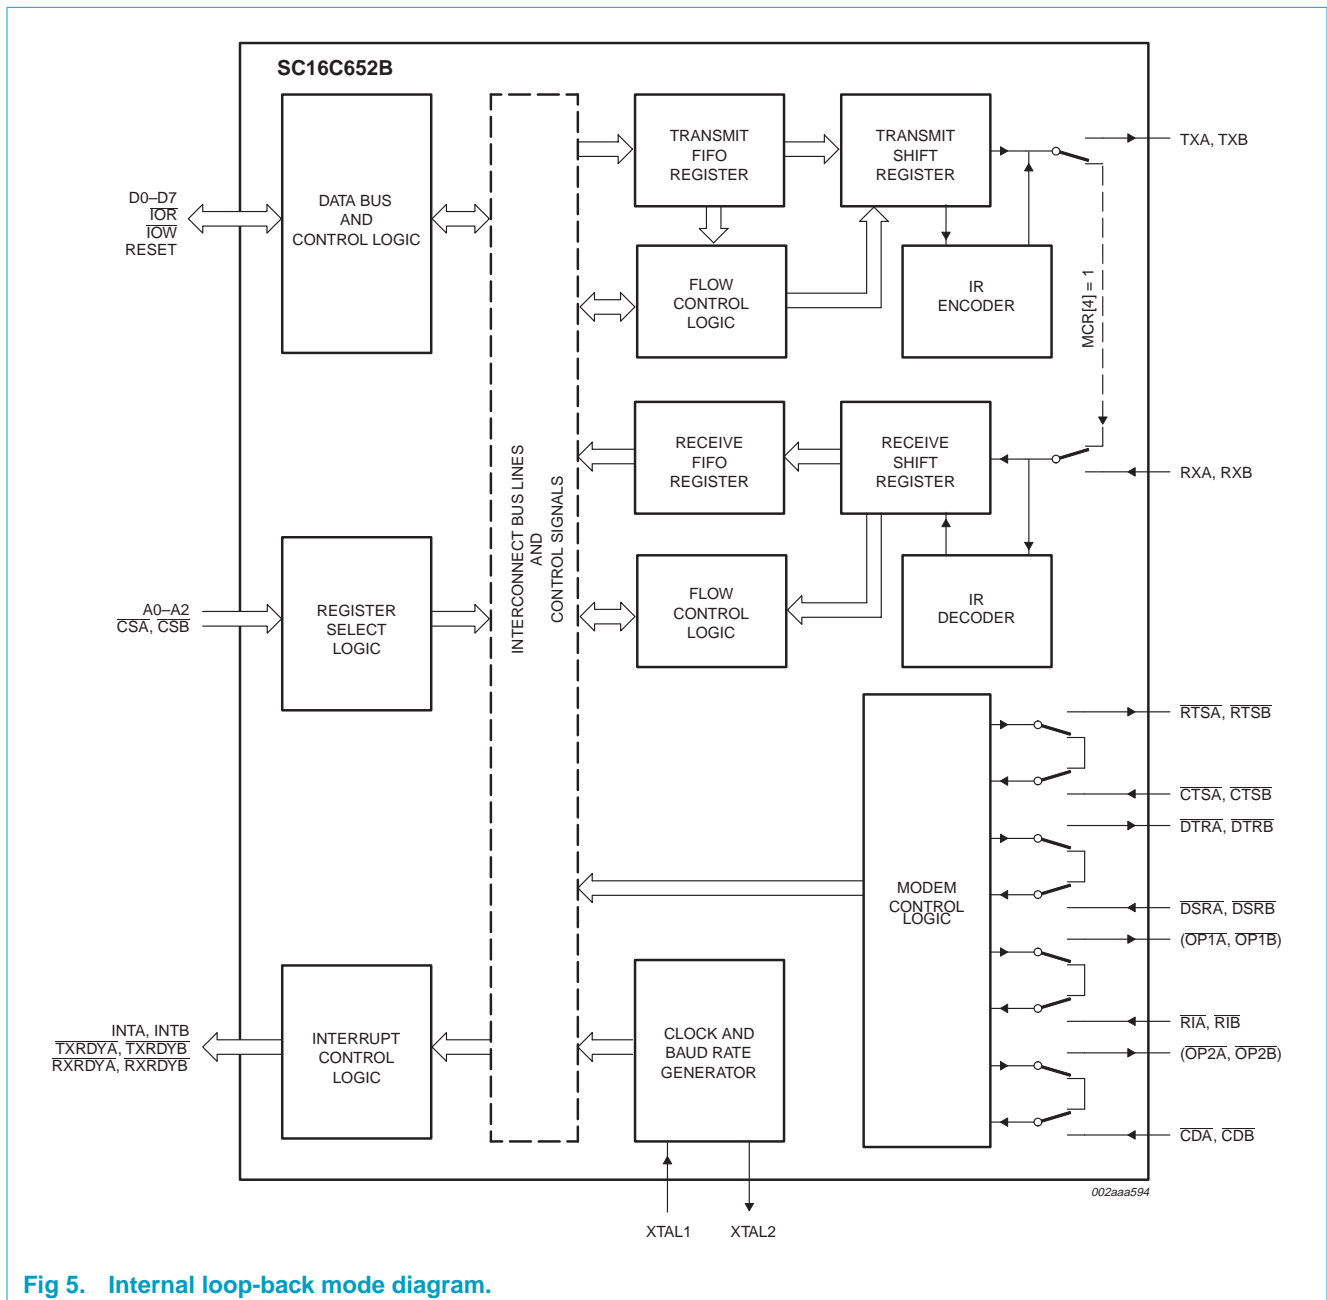

Fig 5. Internal loop-back mode diagram.
The internal loop-back capability allows on-board diagnostics. In the loop-back mode, the normal modem interface pins are disconnected and reconfigured for loop-back internally (see Figure 5). MCR[0:3] register bits are used for controlling loop-back diagnostic testing. In the loop-back mode, the transmitter output (TX) and the receiver input (RX) are disconnected from their associated interface pins, and instead are connected together internally. The $\overline{\text{CTS}}$, $\overline{\text{DSR}}$, $\overline{\text{CD}}$, and $\overline{\text{RI}}$ are disconnected from